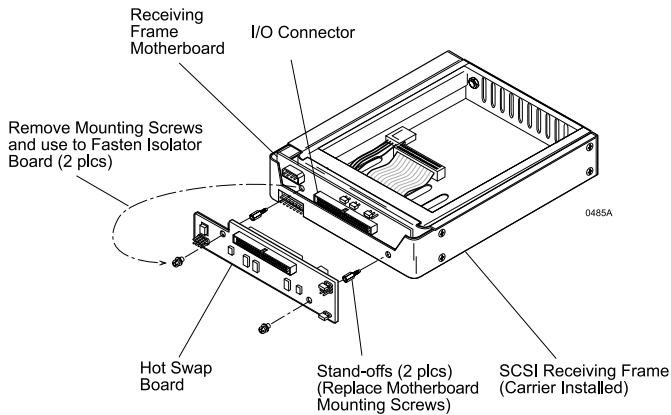

Figure B-1: Attaching the Hot Swap Board
1. Remove the two (2) Phillips Pan Hd. screws from the receiving frame motherboard and set the screws aside (Figure B-1).